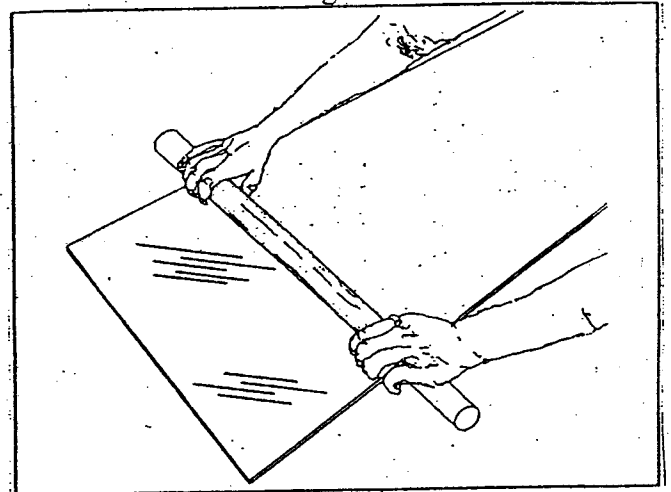

Figure 7
3. NOTE: Water based adhesive has a high solid content compared to solvent based adhesive. A very light coat of water based adhesive is sufficient. See Figure 7 & 8.